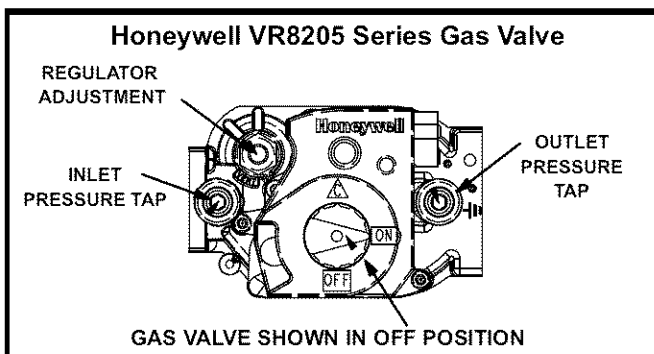

FIGURE 3
- 2 - Remove the heating compartment access panel and burner box cover, if necessary. Turn the automatic gas valve knob, or switch the gas valve lever, to the OFF position. See figures 3, 4, 5 and 6.
- 6 - Turn the knob on the gas valve clockwise  (or move the lever) to the **OFF** position. Do not force. See figures 3, 4, 5 and 6.
- 7 - Wait five (5) minutes for any gas to clear out. If you then smell gas, **STOP!** Immediately call your gas supplier from a neighbor's phone. Follow the gas supplier's instructions. If you do not smell gas, go to the next step.
Check the gas line pressure while the unit is operating. Maintain a minimum of 4.5" w.c. (1.12 kPa) and a maximum of 10.5" w.c. (2.61 kPa). See figures 3, 4, 5 and 6 for the location of the inlet pressure tap on the gas valve.
- 4 - After allowing the unit to stabilize for 5 minutes, check the manifold pressure. Manifold pressure for natural gas-fired units installed at altitudes of 7501 - 10000 ft. above sea level is 3.5" w.c. (0.87kPa). See figures 3, 4, 5 and 6 for the location of the pressure adjustment screws.